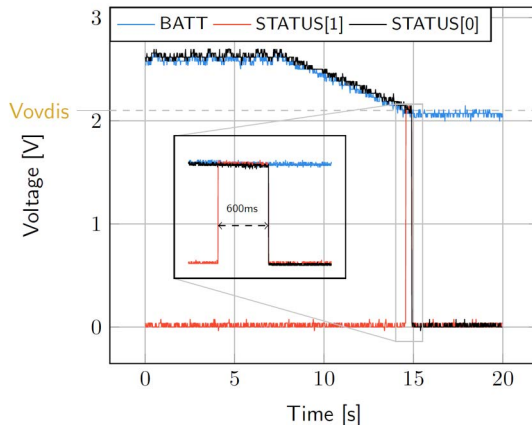

Figure 4: LDOs disabled around 600 ms after **BATT** reaches  $V_{OVDIS}$
- **BATT**: Voltage decreases as the system consumes the power accumulated in the storage element. The voltage remains stable after crossing **VOVDIS** (see Figure 4).
- **STATUS[0]**: De-asserted when the LDOs are no longer available as the storage element is running out of energy. This happens 600 ms after **STATUS[1]** assertion (see Figure 4).
- **STATUS[1]**: Asserted for 600ms when the storage element voltage (**BATT**) falls below **VOVDIS** (see Figure 4).